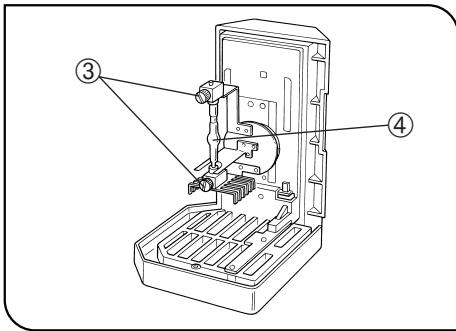

Fig. 42
3. Place the socket section upside down as shown in Fig. 42.